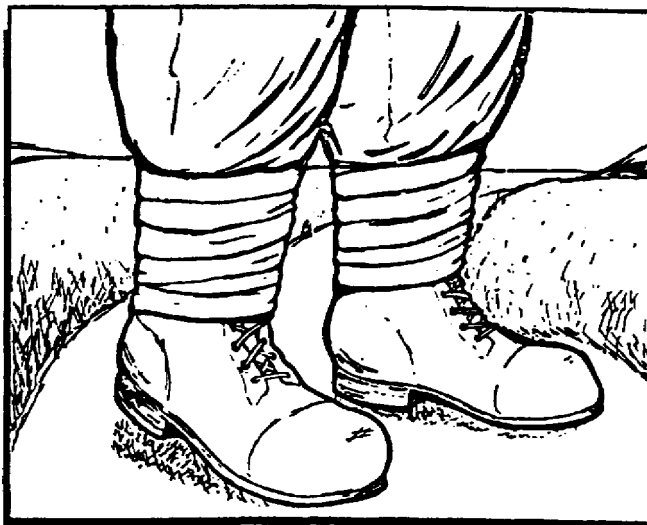

Figure 12. Gaiters.
c. Gaiters. Gaiters are made from cloth, webbing, or canvas. They help keep sand and snow out of shoes and protect the legs from bites and scratches (Figure 12).